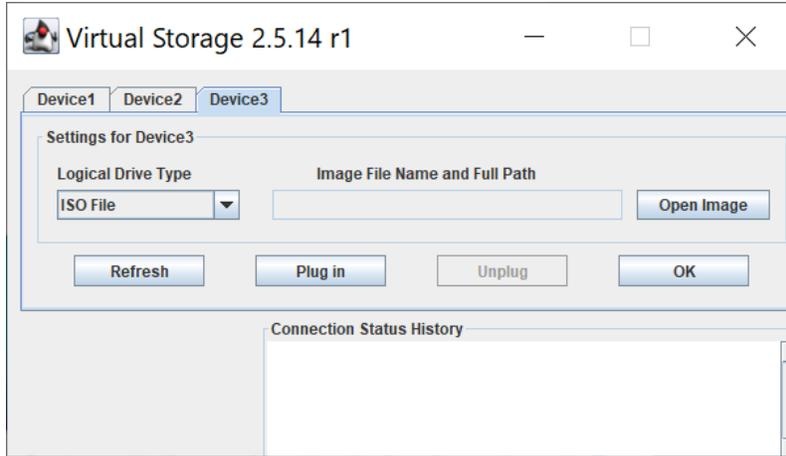

Figure 20. Remote Console Virtual Storage Menu
- Virtual Storage** – Allow starting/stopping remote media redirection as shown in Figure 20. Redirect up to four devices at the same time. Select a logical device from a local CDROM/DVD drive or an ISO image on the local client file system as a virtual CDROM device on the remote system; a local floppy drive; a USB key drive; or a floppy disk or USB key image (. IMA/. IMG) file on the local client file system as a virtual floppy device on the remote system.